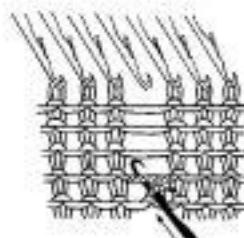

Fig. 38-1
1. Insert the open hook into the loop and push the needle forward under the strand above the loop until the loop is behind the latch. (Fig. 38-1)